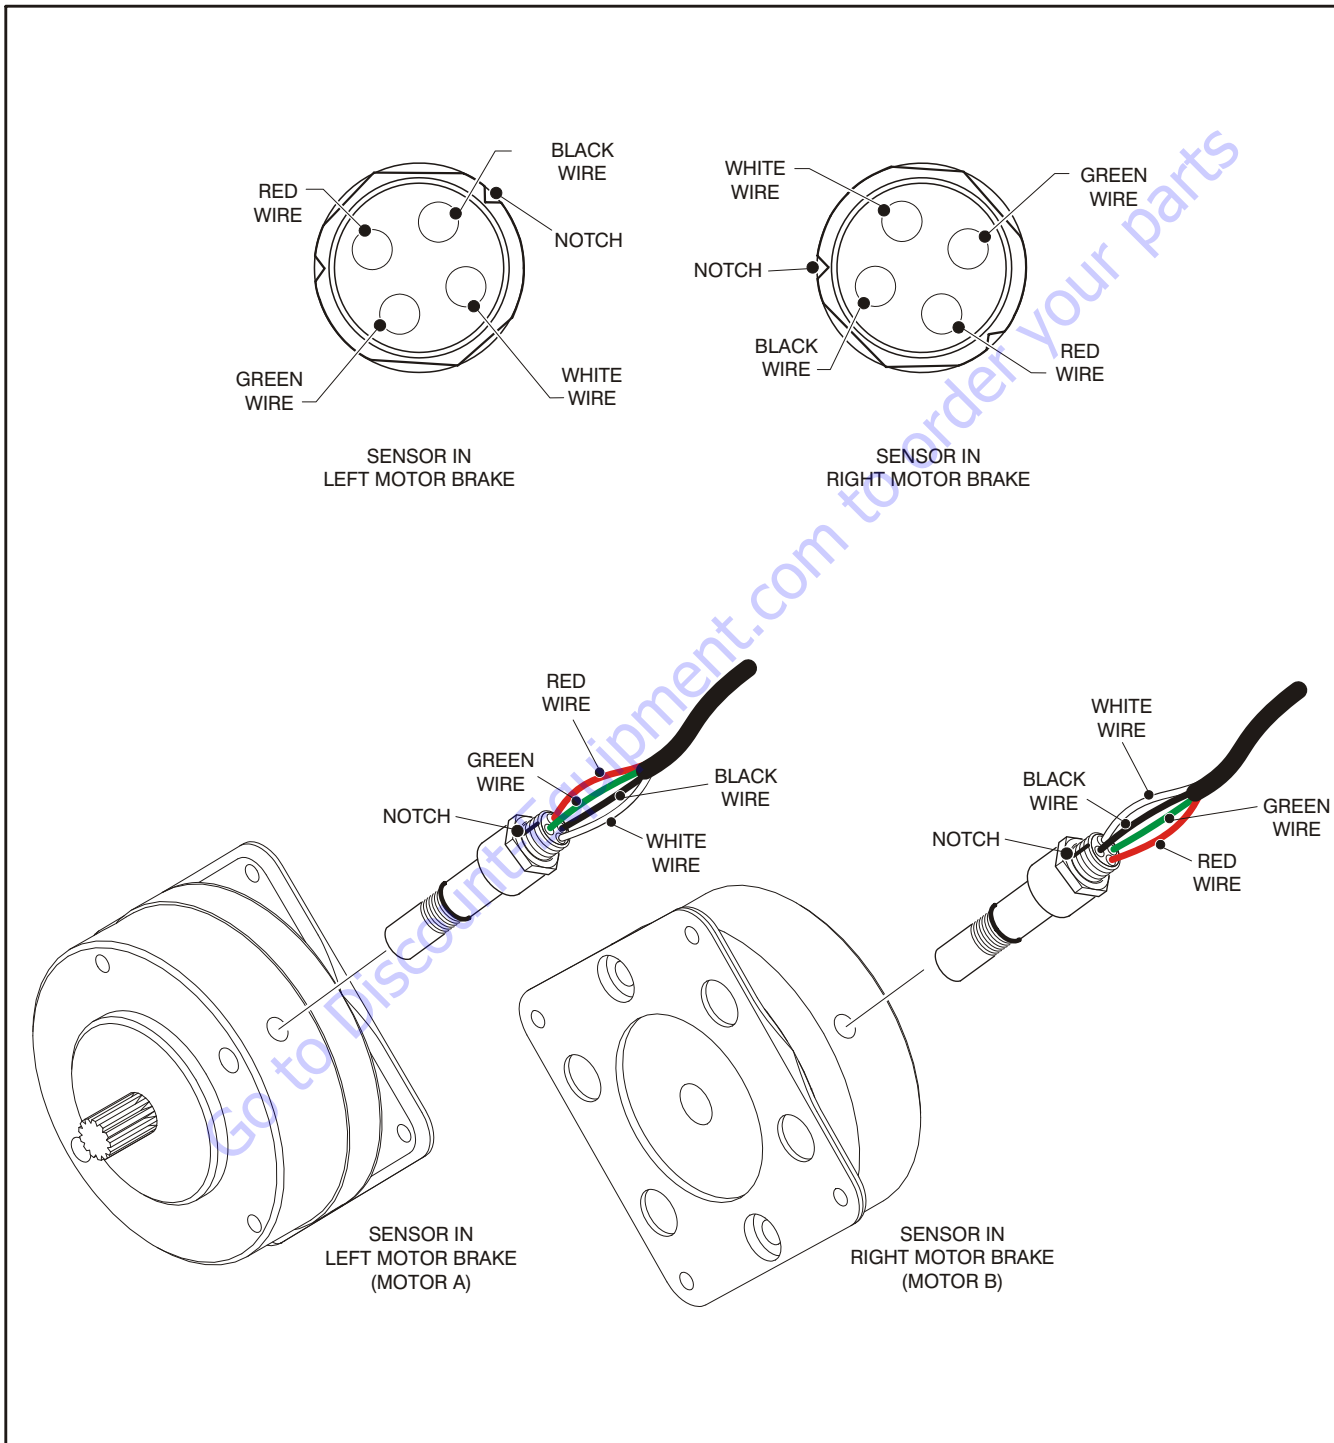

Figure 3-16. Speed Sensor Orientation
3. Back-off 3/4 to 1 turn and align the notches according to the inside notch on each speed sensor. If there are no notches, align the speed sensor wires as shown in Figure 3-16., Speed Sensor Orientation.